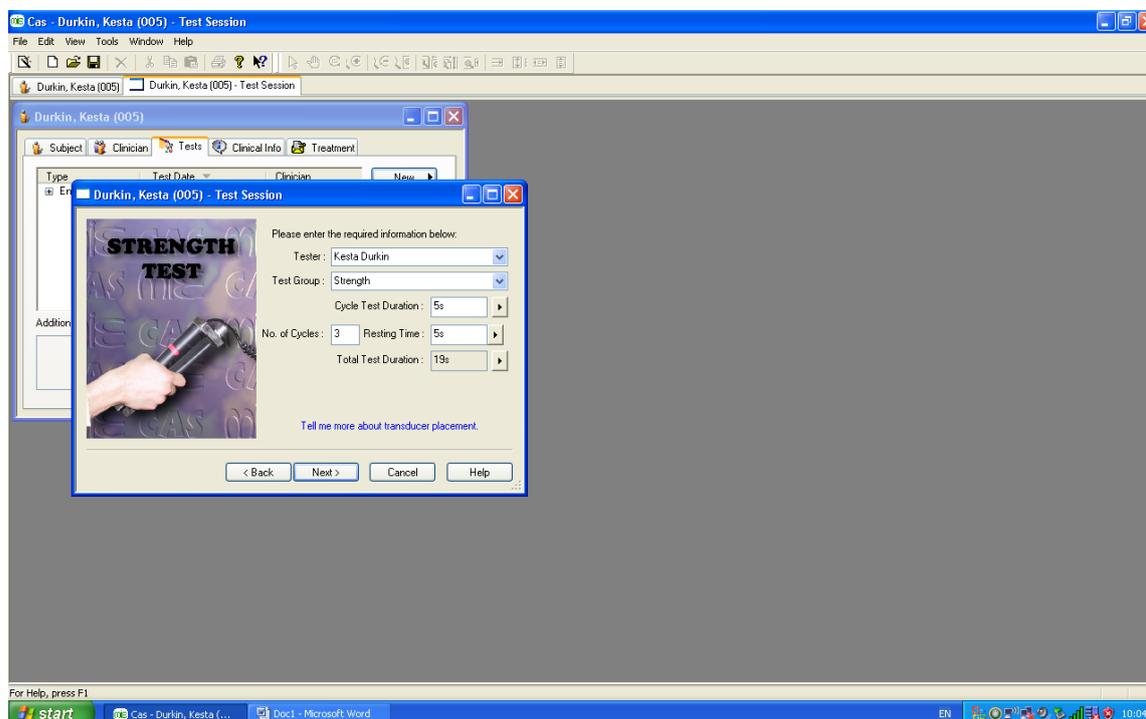

Figure 11.
[For use by the EPI-HIP study, make the measurements on the non-dominant side. When viewing the screen shown in figure 11, ensure the *Cycle Test Duration* – is set to 5s; *No. of Cycles* – is set to 3; and *Resting Time* – is set to 15s. If after entering the No. of Cycles into the box, you are unable to alter the value in the “resting time” box, click on “test group” which will then permit you to amend the value in this box].
3. Make sure that the information entered into the type boxes is correct and then click “next” (figure 11).
4. Enter the details you require to perform this test and then click "next" (figure 11).